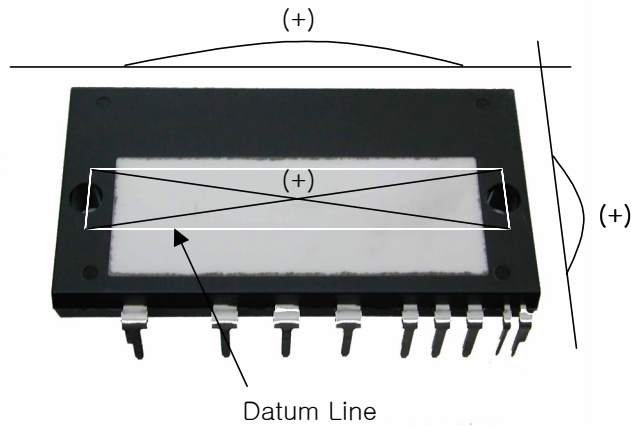

**Fig. 6.  $R_{sc}$  Variation by change of Shunt Resistors ( $R_{SU}, R_{SV}, R_{SW}$ ) for Short-Circuit Protection**
- Short-circuit current protection is functioning only at the low-sides. It would be recommended that the value of the external sensing resistor (RSC) should be selected around 50 Ω in order to make the SC trip-level of about 15A at the shunt resistors (RSU, RSV, RSW) of 0Ω. For the detailed information about the relationship between the external sensing resistor (RSC) and the shunt resistors (RSU, RSV, RSW), please see Fig. 6.